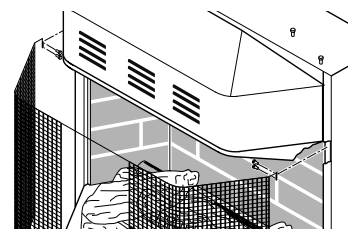
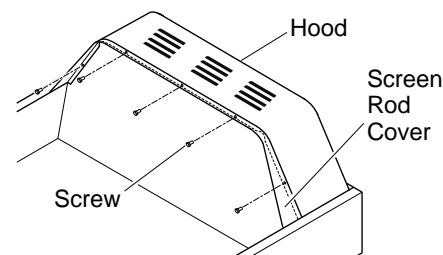
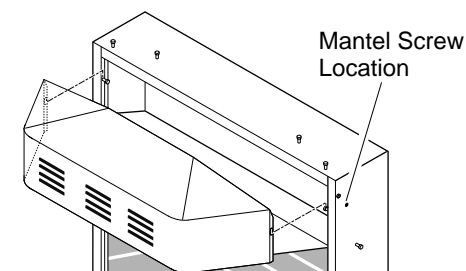

Figure 11 - Removing Screen
Figure 12 - Removing Hood Screws
Figure 13 - Removing Hood
2. Remove screen from fireplace by removing screws in each end of screen rod (see Figure 11). Hold screen rod cover while removing five hex head screws underneath hood (see Figure 12). Carefully lift and pull out hood (see Figure 13).
- Attach remaining two 3" wood screws from hardware pack through openings inside of fireplace sides into the mantel. See Figure 13, page 9 for screw hole location.